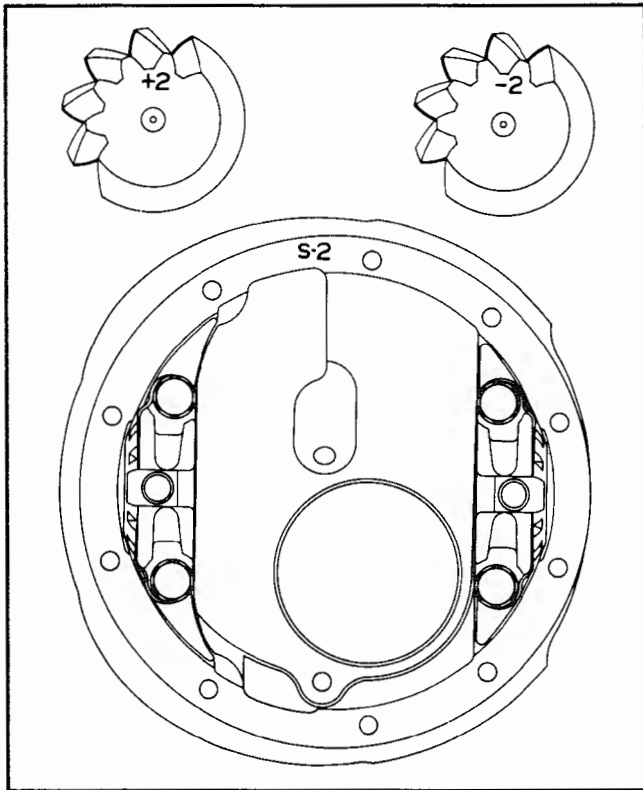

Fig. 4-43 Differential Carrier and Drive Pinion Depth Markings
4. When replacing either gear set or carrier, refer to pinion and carrier markings (Fig. 4-43) and chart (Fig. 4-44) for correct shims to be installed. Differential carriers are marked on the face of the flange (Fig. 4-43) to indicate the number of thousandths "deep" (D) or "shallow" (S) the shoulder for the rear bearing outer race happens to be. Carriers marked "D" require more shims than those marked "O" or "S". The pinion is marked on the end with a number indicating thousandths in shims from basic setting to put it in correct position with "O" carrier. Pinions which are not marked are "O" or basic. Thus, a pinion marked +2 would require a .002" additional shim thickness for an "O" carrier. **NOTE:** Letters and symbols are also stamped on pinions during inspection at the factory. Do not mistake inspector's marks for numbers which indicate pinion variations from standard size.
To use shim chart (Fig. 4-44) read marking on pinion and carrier (Fig. 4-43). In the table, read to the right from the carrier marking and down from the pinion marking; the intersection of the carrier line and the pinion column shows the correct total shim thickness to be used. As an example; with markings of S-2 and +1, the correct shim thickness is .015" while the S-2 and -2 markings shown would be .012".